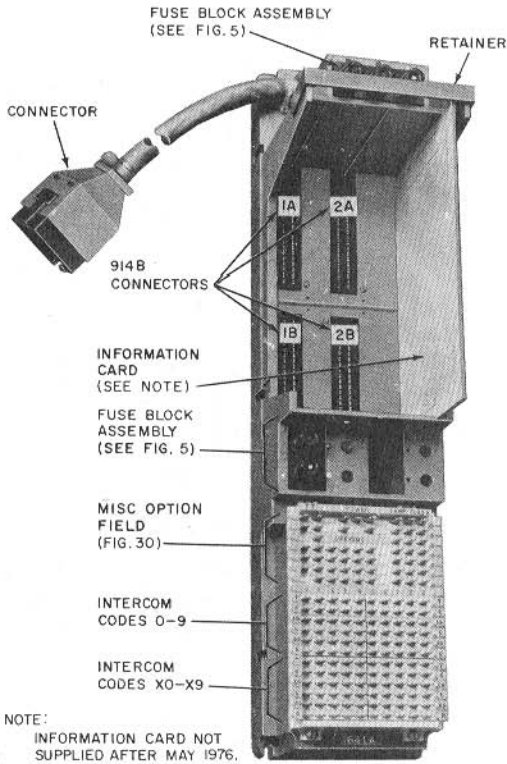

Fig. 3—641A Modular Panel
**D. 641A Modular Panel (Fig. 3)**
- Terminal field (YELLOW) utilized by all connectors for a common dial intercom service [*NOT* related to individual connectors by quadrants as on the 620A (MD), 620A2, and 642A panels]